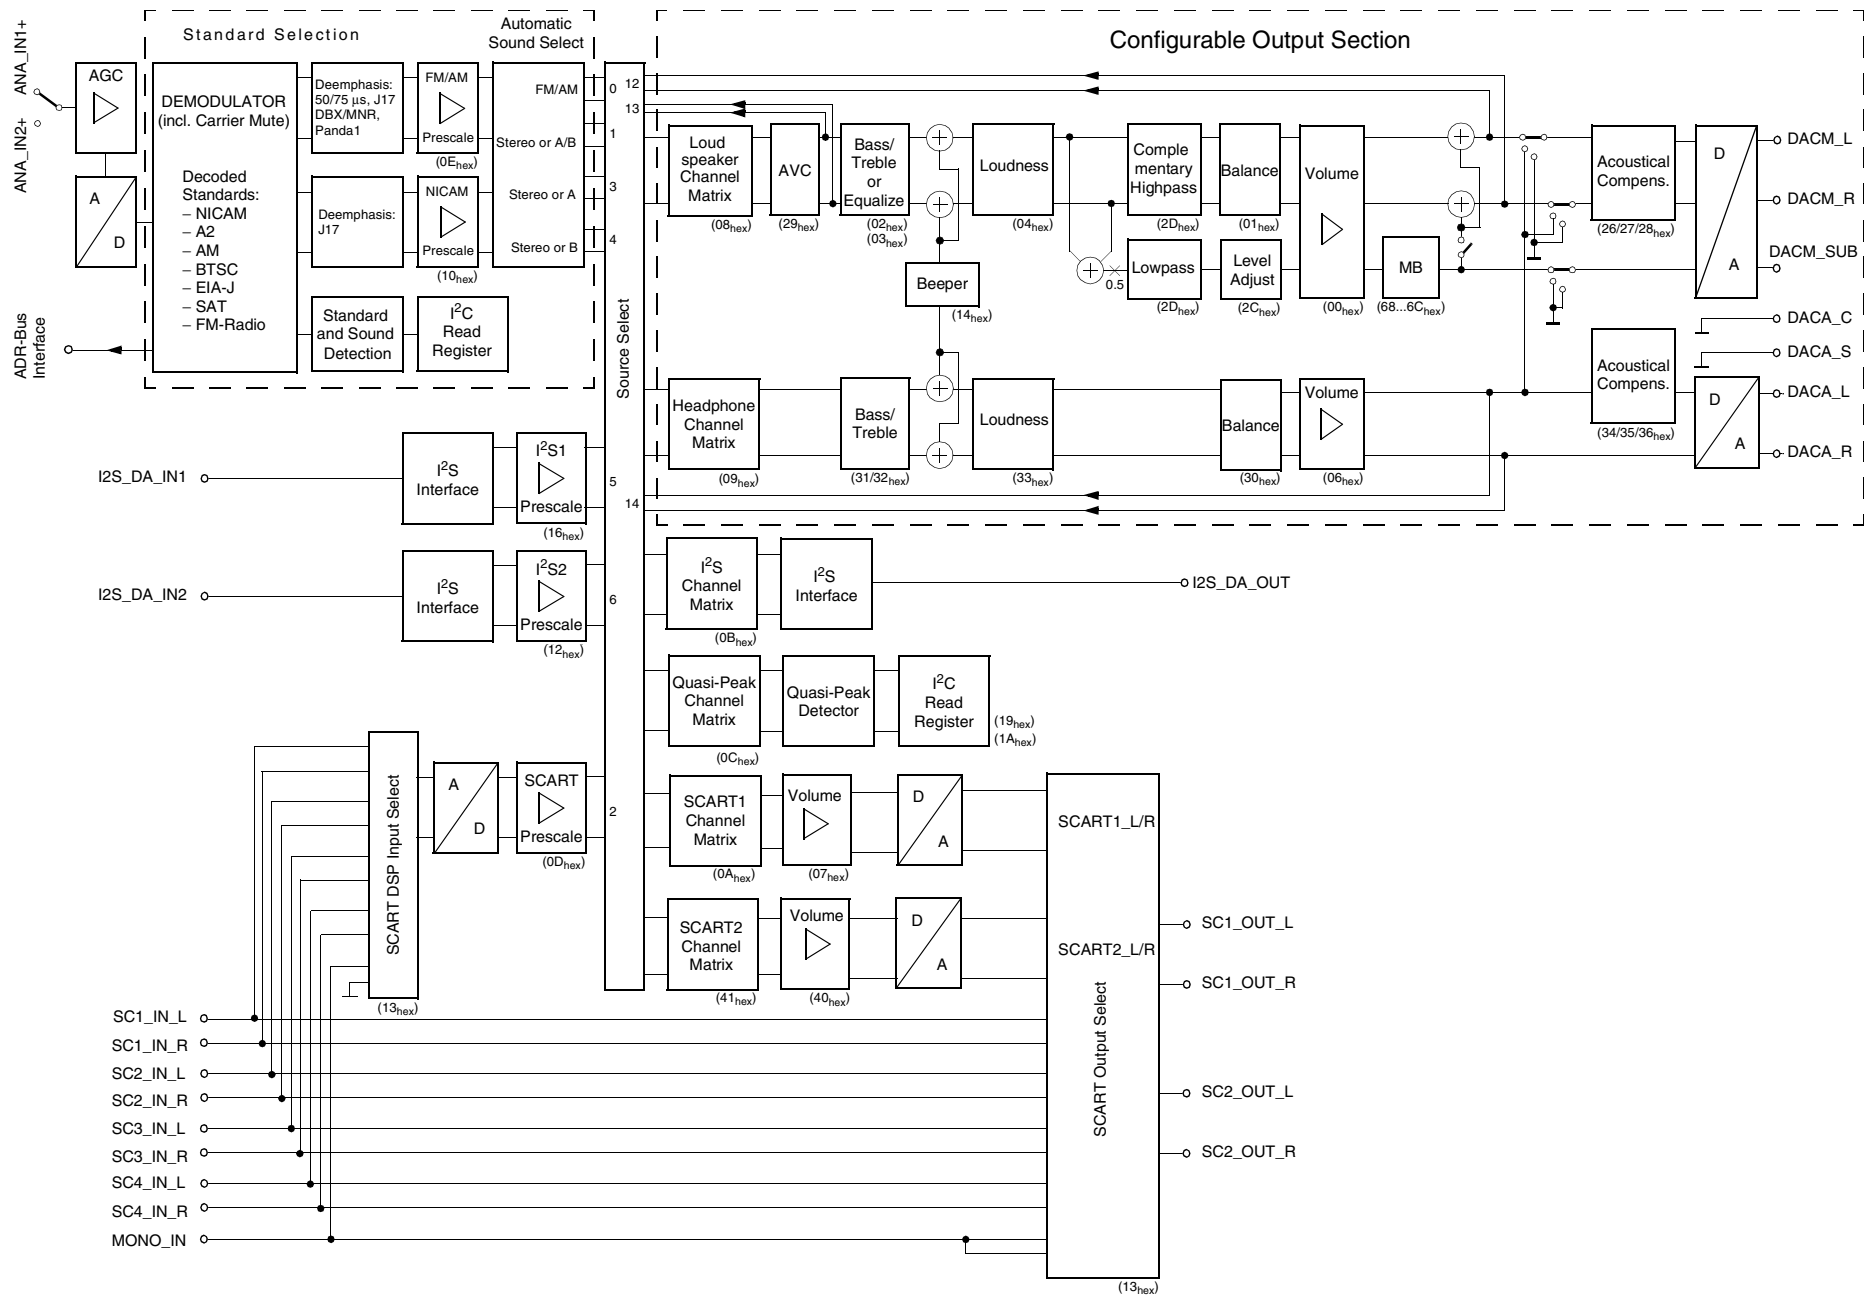

Fig. 2–1: Signal flow block diagram of the MSP 34x2G
The block diagrams in Fig. 2–1, Fig. 2–2, and Fig. 2–3 show the signal flow in the MSP 34x2G in three modes that can be set in the Output Configuration register.
- Standard mode (see Fig. 2–1).
- Virtual mode (see Fig. 2–2).
- Multi-channel mode (see Fig. 2–3).